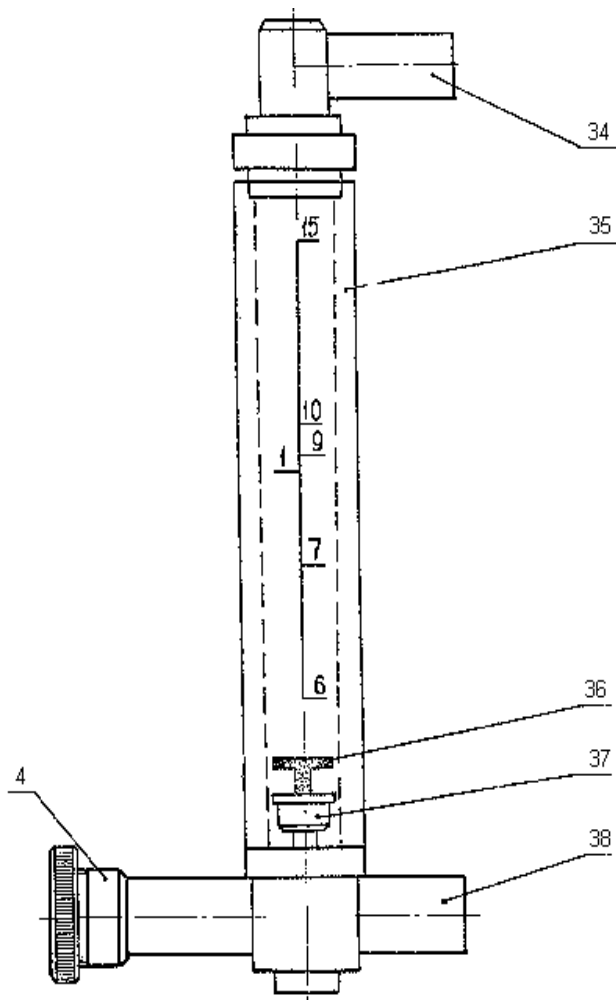

Fig. 6. Flow tube:
3.3.2 Flow tube (Fig. 6) is designed to monitor gas flow from ejector or oxygen feed system of a respirator being tested.